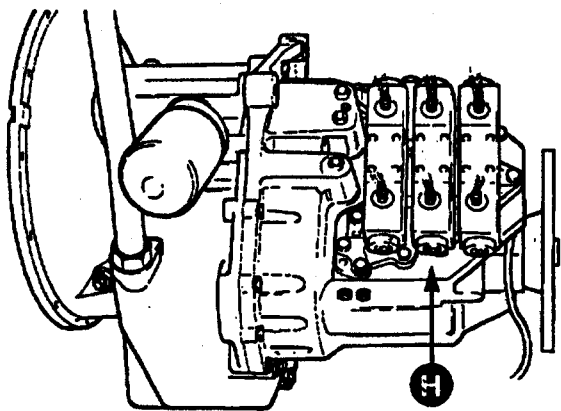

Figure 12.
2. Remove the layshaft clutch solenoid feed connector H, Figure 12. This ensures that only the reverse high clutch is energized when 2nd gear forward is selected.